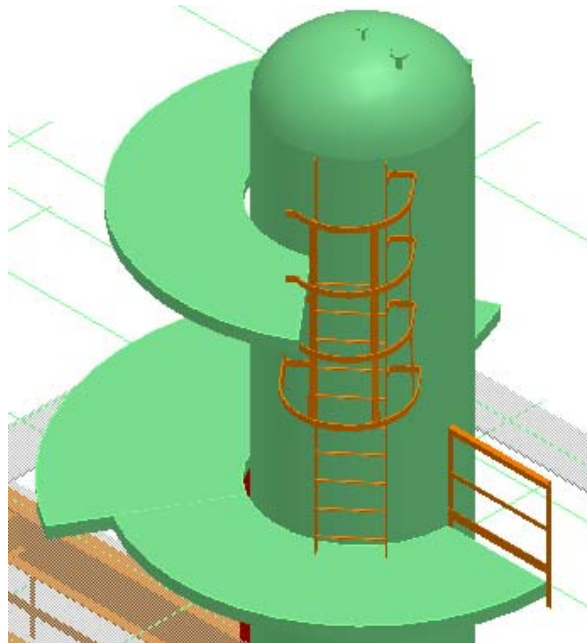

Figure 42: Placed Handrail
44. In this page, set **Post Section Cardinal Point** field to **1-Bottom Left**. Click **OK** on the **Handrail Properties** page. The view should resemble Figure 42.